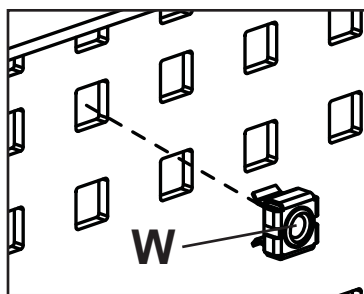

fig 5.1
- 5-1** Align wall mount assembly (**G**) with interface plates (**A**) to determine location of cage nuts (**W**) used to secure wall mount assembly (**G**) to interface plates. Install cage nuts from rear side of interface plates (**A**) as shown in figure 5.1.